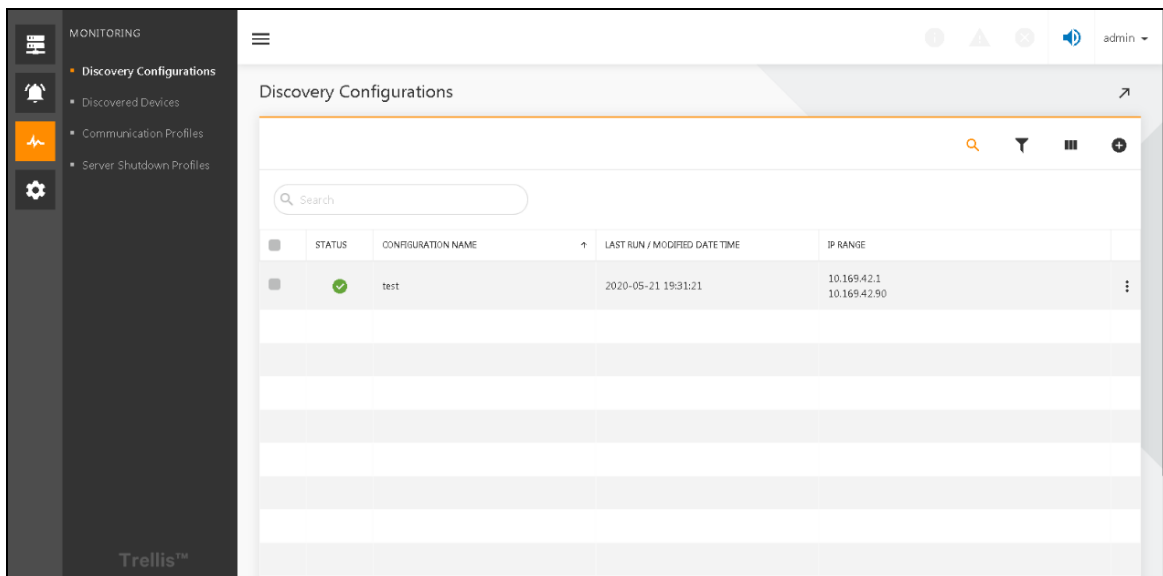

Figure 4.9
- When the run is over, the status turns green. Refer **Figure 4.9** below .